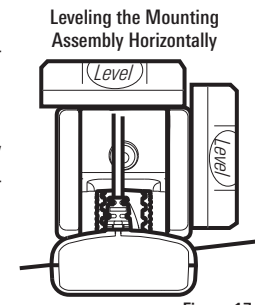

Figure 17
9. Continue to adjust the transducer assembly until the bracket is also level from port to starboard (horizontally level as you look at the transducer from behind the boat). (Figure 17)